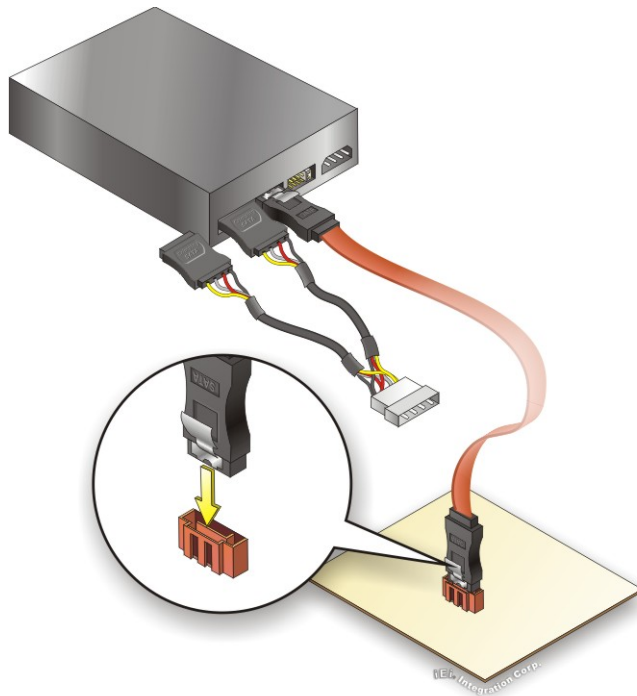

Figure 4-19: SATA Power Drive Connection
- Step 3:** Connect the cable to the SATA disk. Connect the connector on the other end of the cable to the connector at the back of the SATA drive. See **Figure 4-19**.
- Step 4:** Connect the SATA power cable. Connect the SATA power connector to the back of the SATA drive. See **Figure 4-19**.